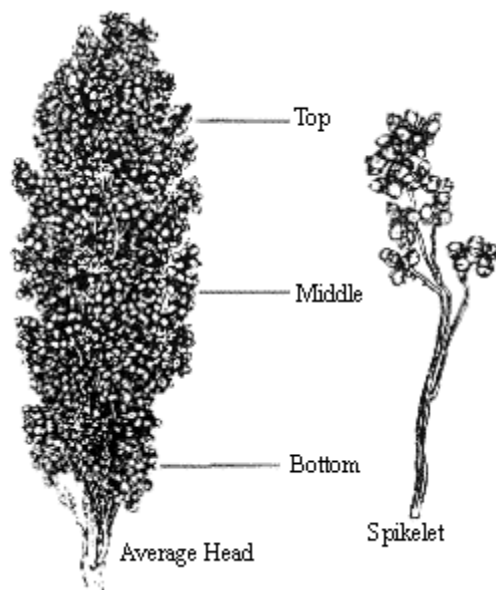

Figure 3. Sorghum head structure.
3. **Head loss** is a measure of destruction of kernels in the head by hail. In order to determine the gross percent head damage, the number of kernels destroyed by hail is divided by the total number of kernels per head. Count the number of spikelets on an average sorghum head (*Figure 3*). Take three spikelets from a typical head--one from the top, middle, and bottom--and count the number of kernels on each spikelet. Average the three spikelet counts to get an average number of kernels per spikelet. Determine the number of kernels per head: